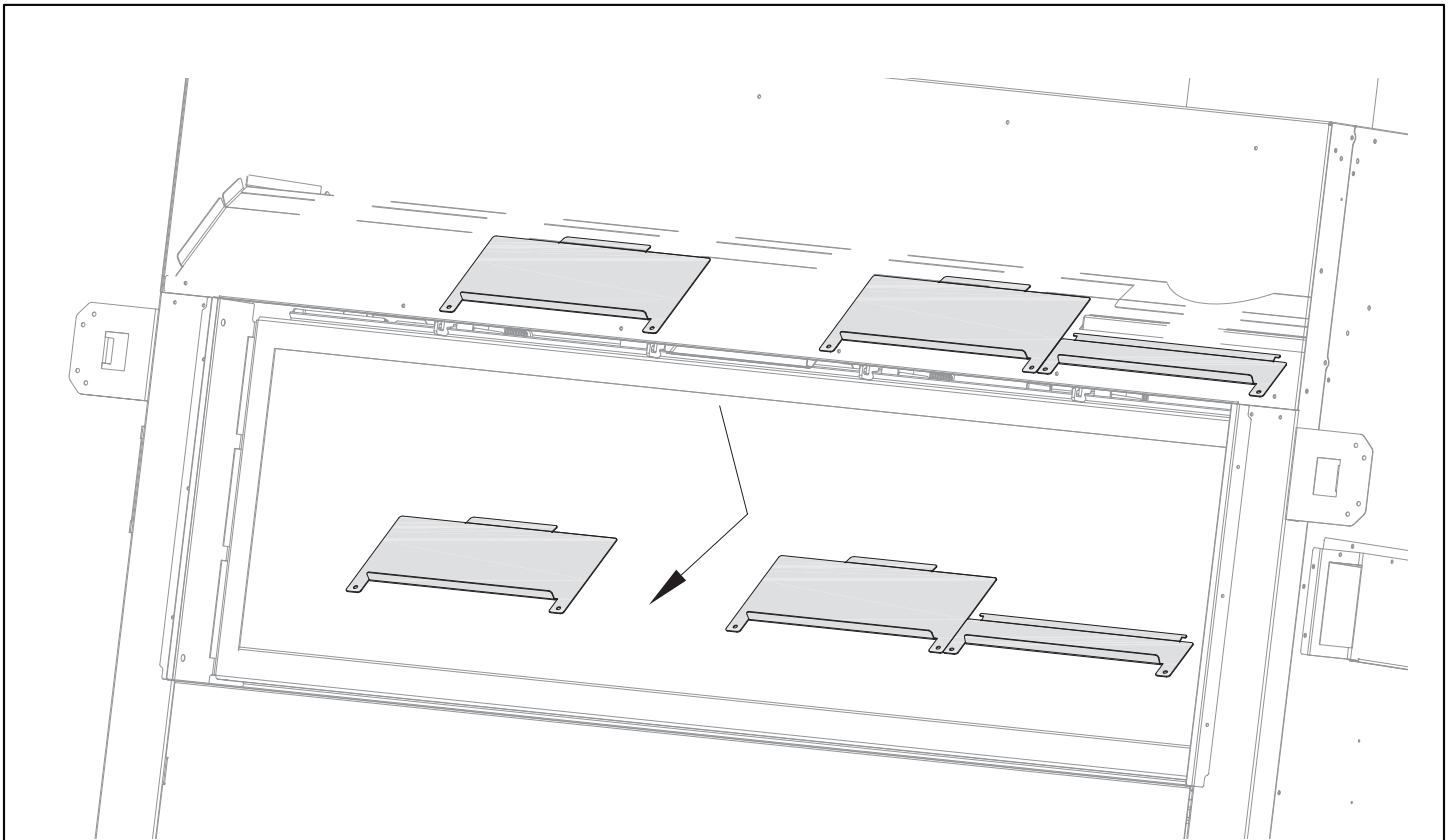

Figure 4.6 - Convection Baffles Removal - Complete on Each Side of the Fireplace
2. Remove the (6) convection baffles from the appliance. The baffles are secured by (2) screws each behind the upper edge of both fireplace openings. See Figure 4.6. Recycle these panels as they are no longer needed.